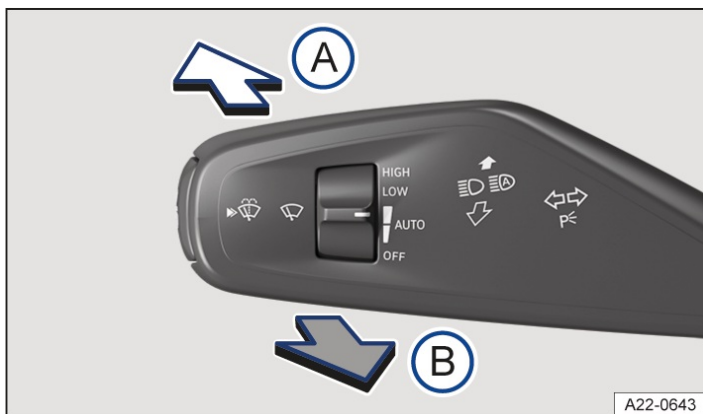

Fig. 1 On the left-hand side of the steering column: turn signal and main beam lever.
3. Tap the lever forward from the basic position → Fig. 1 A.
Or: if Dynamic Light Assist is switched on and active, pull the lever back → Fig. 1 B.
Or: if Dynamic Light Assist is switched on and not active, tap the lever forward → Fig. 1 A. Manual main beam is now switched on. To switch off the manual main beam again, pull back the lever.